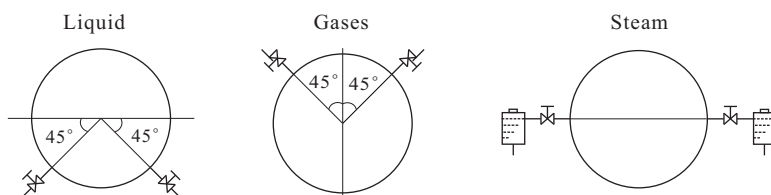

Figure 6.1.1 Pressure taps position
- (1) Orifice Flowmeter should be installed in the cleaned pipe and the seal gasket must not broke into the pipeline.
- (2) Pressure taps position is shown in Figure 6.1.1.